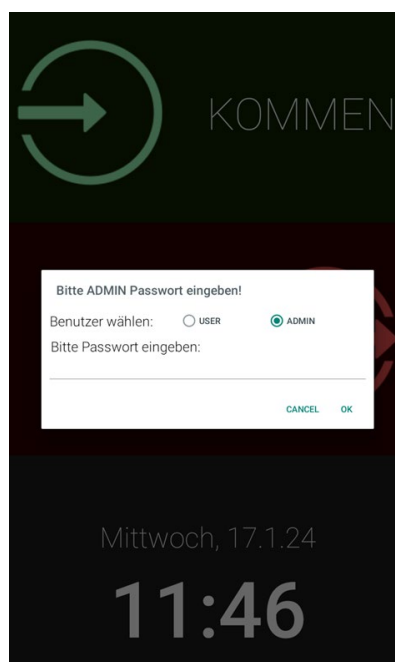

Fig. 9
3. Finally, choose the user type (user or admin) under "Benutzer wählen" and enter the password defined during configuration (Fig. 9).
Depending on the user type previously selected (refer to Fig. 9), you can view and change the following settings: